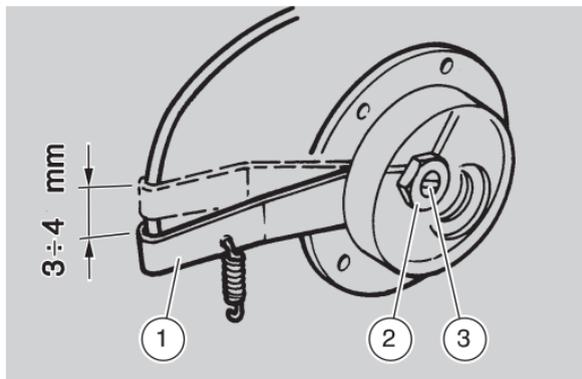

Fig. 20
- loosen the inside nut with the special spanner you will find in the tool kit (2-Fig. 20);
- turn the adjusting screw with a screwdriver (3-Fig. 20) until you take up the slack completely;
- unscrew the above mentioned screw by giving it half a turn, which corresponds to 3-4 mm of cable stroke (1-Fig. 20);